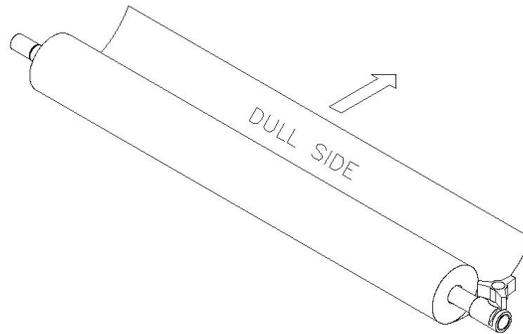

Figure 4
3. For the bottom supply roll, remove the run-off table. Place the mandrel ends into position in the lower mandrel holder slots. Return the Run-off Table to its proper position before operating the laminator. If you are at the front of the laminator the film should unwind away from you at the top of the roll as in Figure 4 below.